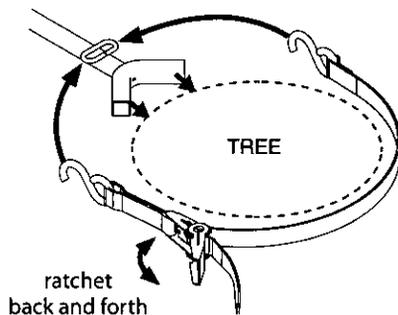

Figure 1: for RE607, RE623, RE624
2. a. Position (2) people at the platform end of the ladder, lift the platform end, and continue uprighting by walking toward bottom end of ladder and moving hands along ladder legs. **Stand ladder up against chosen straight tree on dry, level ground.** Use caution when ladder comes over center against tree.
- d. (FOR RE607, RE623, RE624 ONLY) With ratchet strap now in hand, hook "S" hook with long strap to the stabilizer bar link welded on stabilizer bar. Feed the long strap through the center (slot) of ratcheting mechanism and back around through tightening lever. **SEE FIGURES 1 AND 2.** Secure the ladder tight so the stabilizer bar is at a right angle to the tree. Adjust stabilizer bar length as necessary so it contacts tree. Be absolutely sure the tree blade(s) at top and the stabilizer bar are all contacting tree.
Wrap entire ratchet assembly around tree and hook other "S" hook through opposite side of stabilizer bar link. Pull tail of long strap until most of the slack is taken out. Be sure entire strap is even and at the same level all around tree. "Ratchet" tight to tree, this will securely attach stabilizer bar to tree. **SEE FIGURE 1.** Be absolutely sure the tree blade(s) at top and stabilizer bar are all contacting tree.